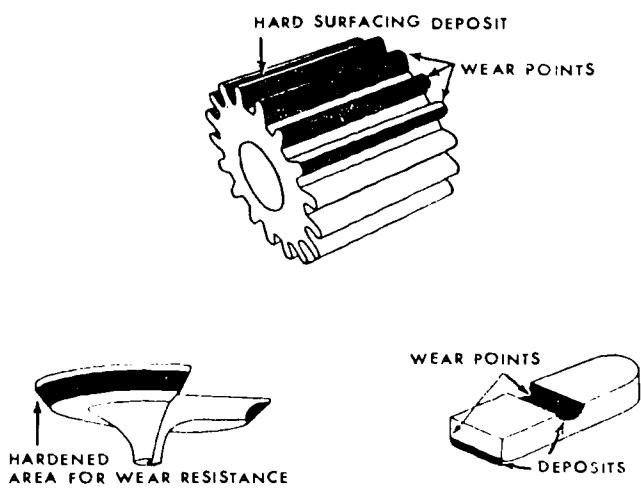

Figure 4-4. Hard-surfacing applications.
In figure 4-4, typical applications of hard facing are shown on gear teeth, an exhaust valve, and a rocker arm.
**Finishing.** Many parts that are hard faced, like those shown in figure 4-4, require finishing to dimensions or shapes. If this is the case, be very careful to apply